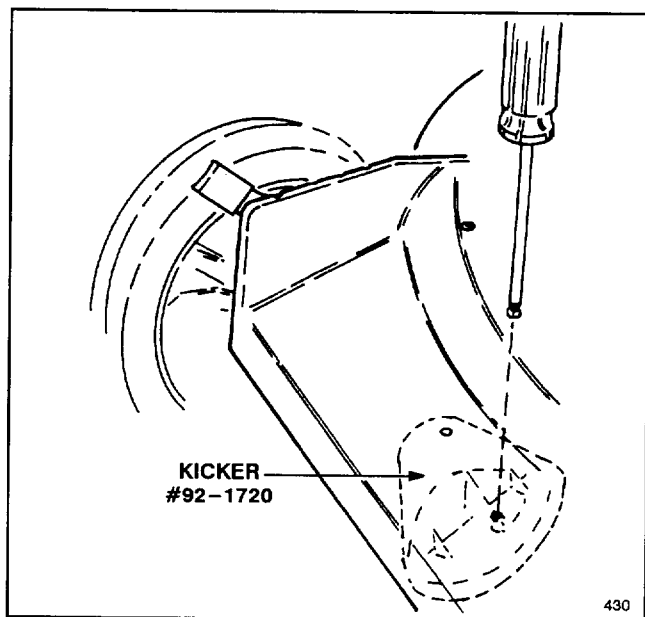

Figure 5
4. Position kicker #92-1720 firmly against underside of deck as shown in Figure 5. Align kicker holes with deck holes.